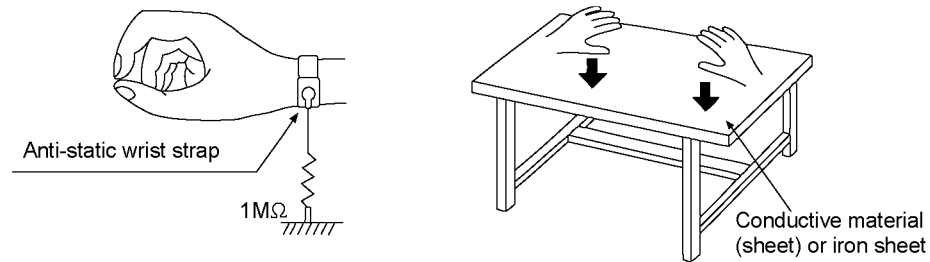

Figure 2-3
- Use the anti-static wrist strap to discharge the static electricity from your body Figure 2-3.